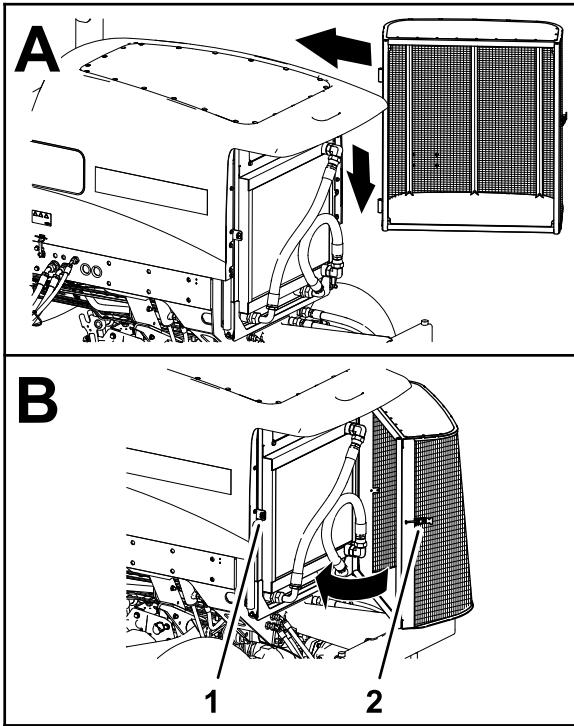

Figure 158
8. Assemble the screen onto the hinge pins (Figure 158).